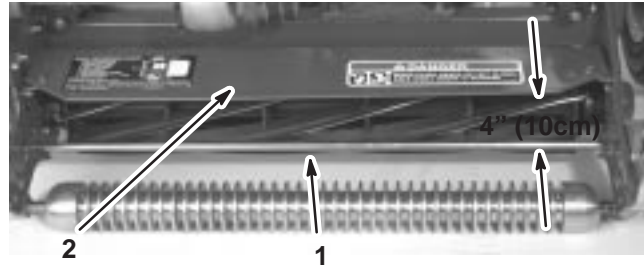

Figure 17
- Measure the distance from top of the front support rod to the front lip of the shield at each end of the cutting unit (Fig. 17).